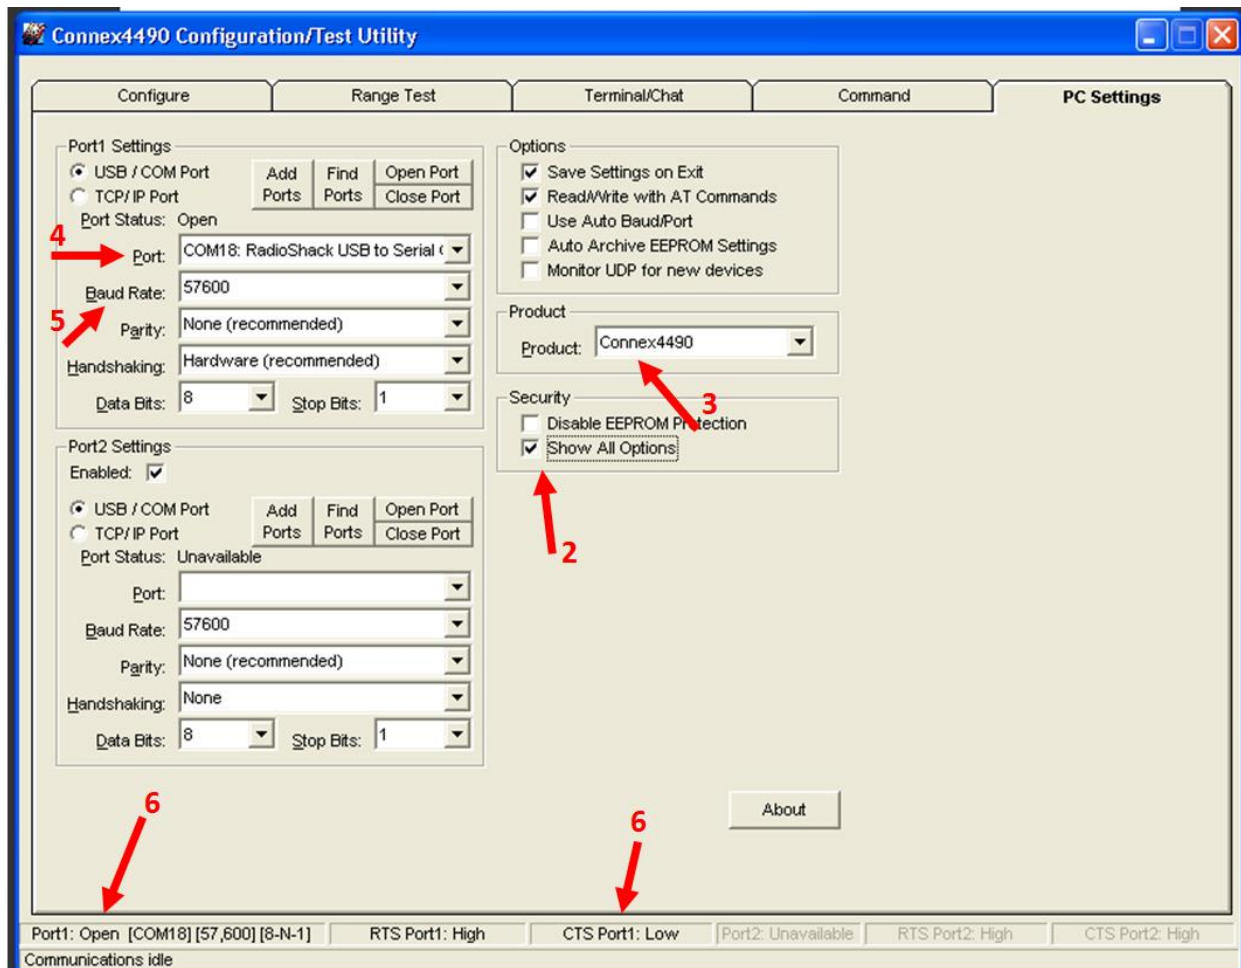

Figure 9: PC Settings tab
**Note:** Items 2-6 in the following list correlate to the numbered items in Figure 9.